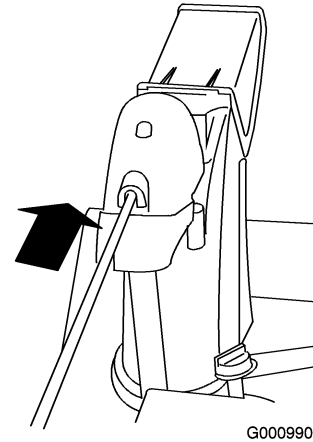

Figure 10
- Insert the front end of the rod into the opening in the back of the chute gear cover until it slides into the chute gear (Figure 10).